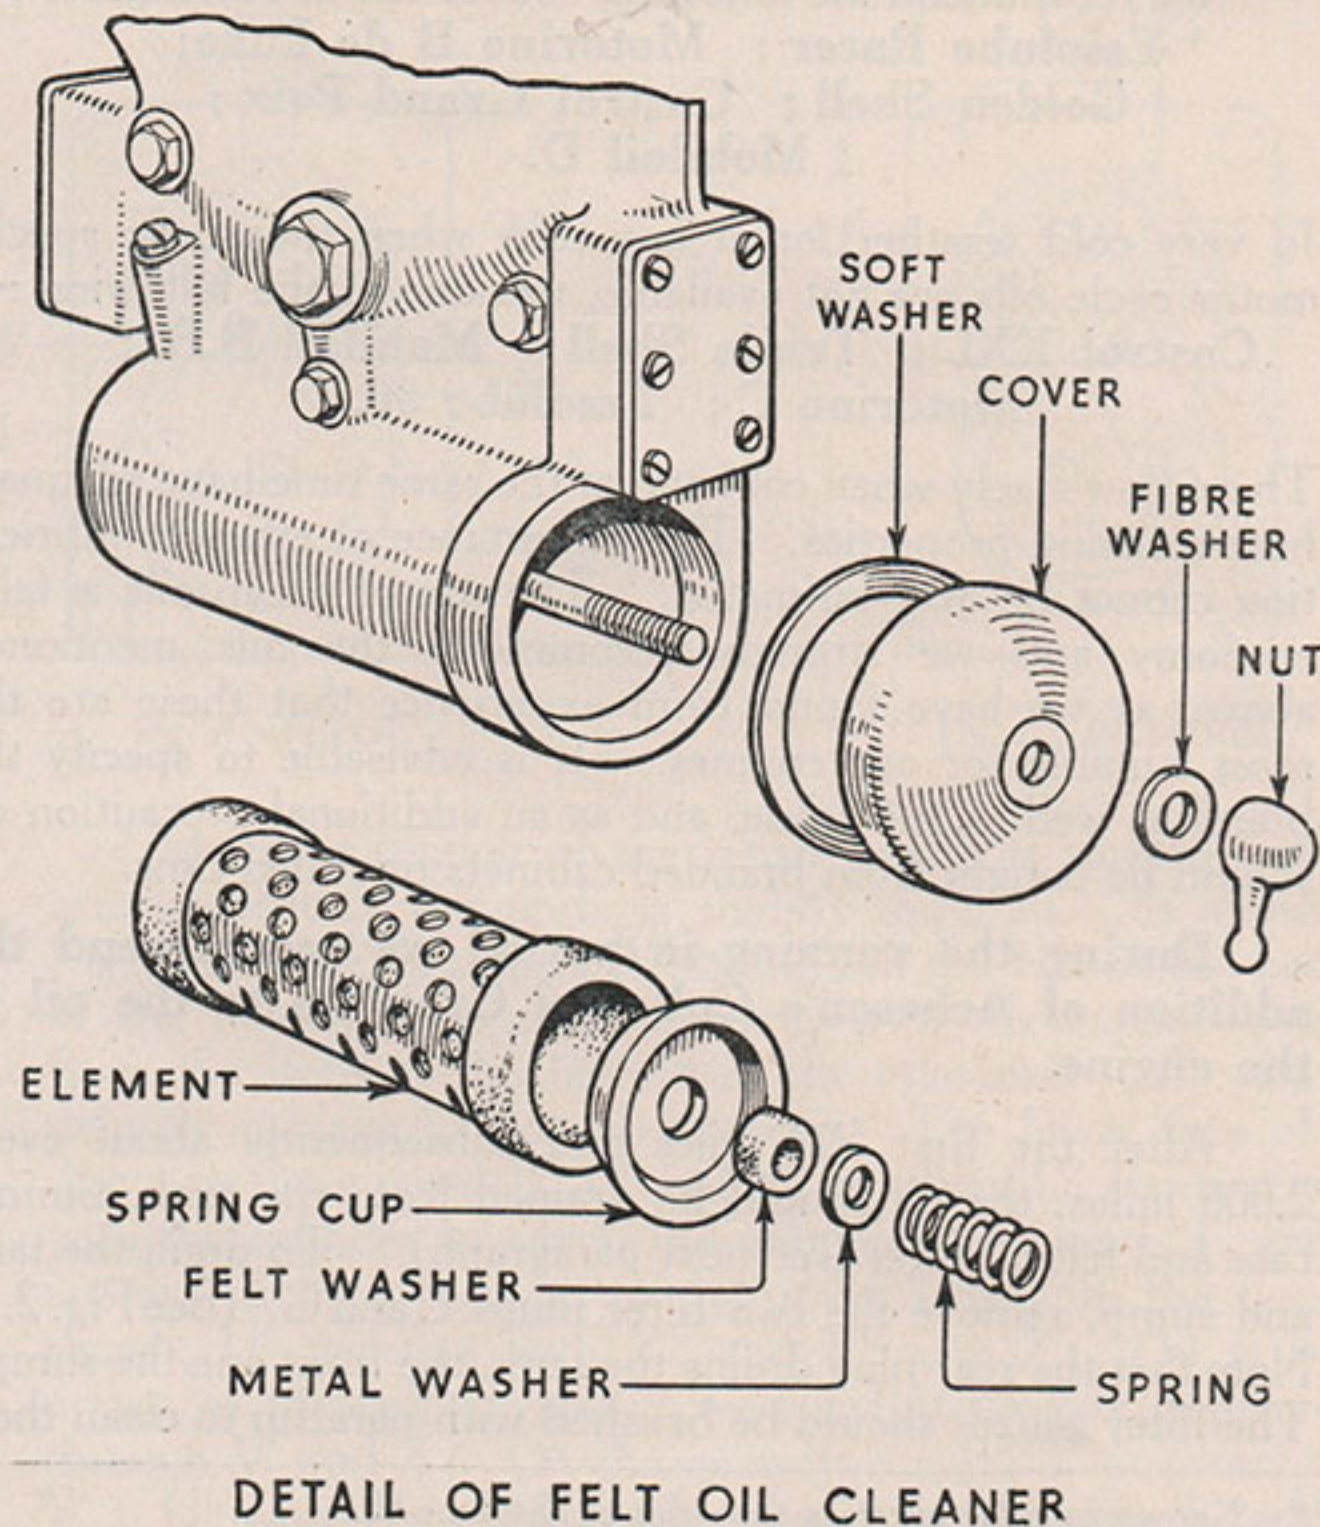

Fig. 6
- 9 **Felt Oil Filter.** The construction of this is clearly shown in Fig. 6. The felt filter element should be cleaned by washing in petrol every 2,000 miles and in addition the element should be renewed every 5,000 miles.